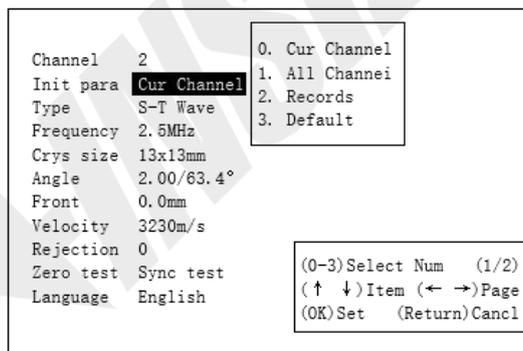

Figure2-15
2.2.7.2 Initialization Selection: Press  and the current channel will be inverted, as shown in Figure 2-15.